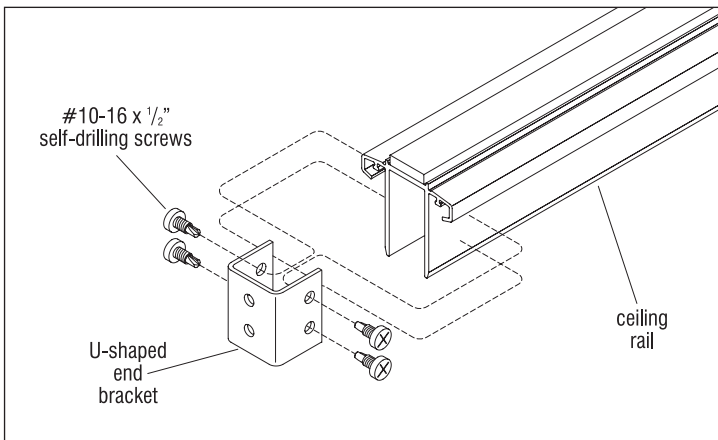

Figure 6
8. Ceiling rail end-of-run conditions can be secured to intersecting walls with the ceiling rail end bracket kit. Using the #10-16 x 1/2" self-drilling Torx head screws supplied with the kit, secure the U-shaped end bracket to the ceiling rail (Figure 6). If attaching to door frame at corner see step 9.